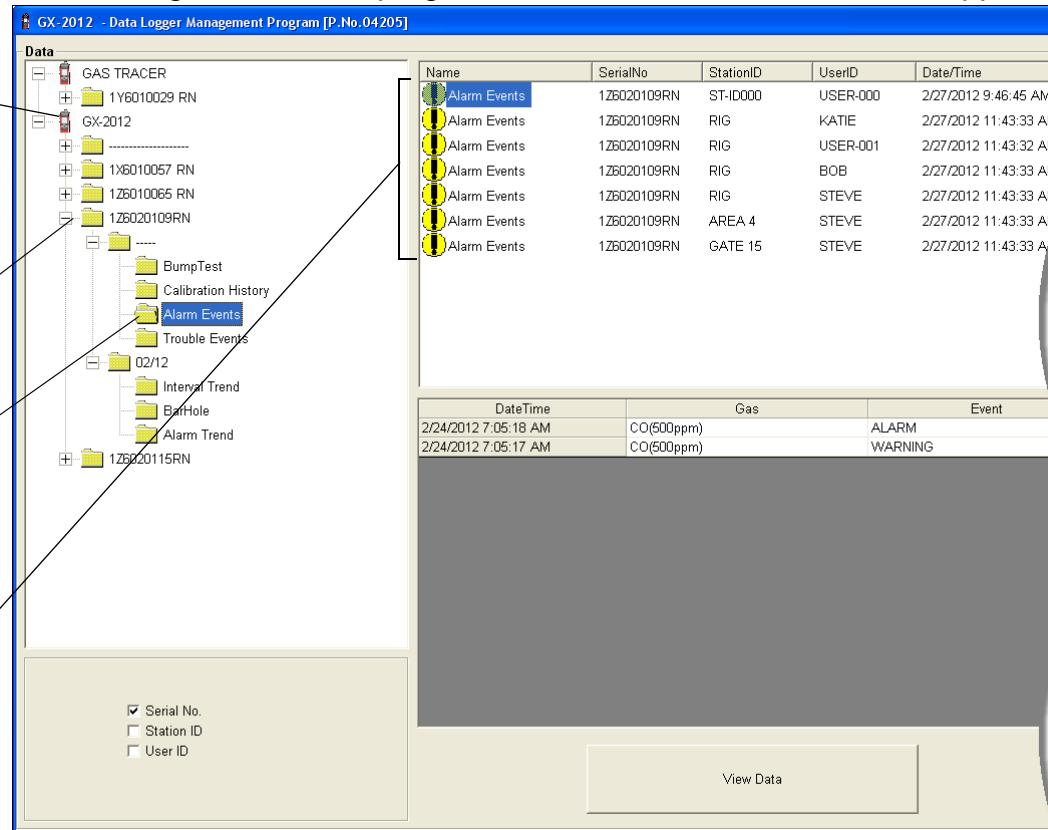

Figure 27: Data Window - Selecting Event Data Files
5. Click the Alarm Events or Trouble Events folder. One or more alarm or trouble event files will appear in the top right frame. An Alarm Events Folder has been opened in the example in Figure 27. If multiple user IDs or Station IDs are used for an instrument, then more than one event file will appear.
8. If you click the **Summary** button, the Data Window will split into two frames one above the other with the event list in the lower frame and the summary information shown in the upper frame. The summary information is the same as the information shown in the upper right frame in Figure 27. To return to the one-frame format, click **Summary** again.